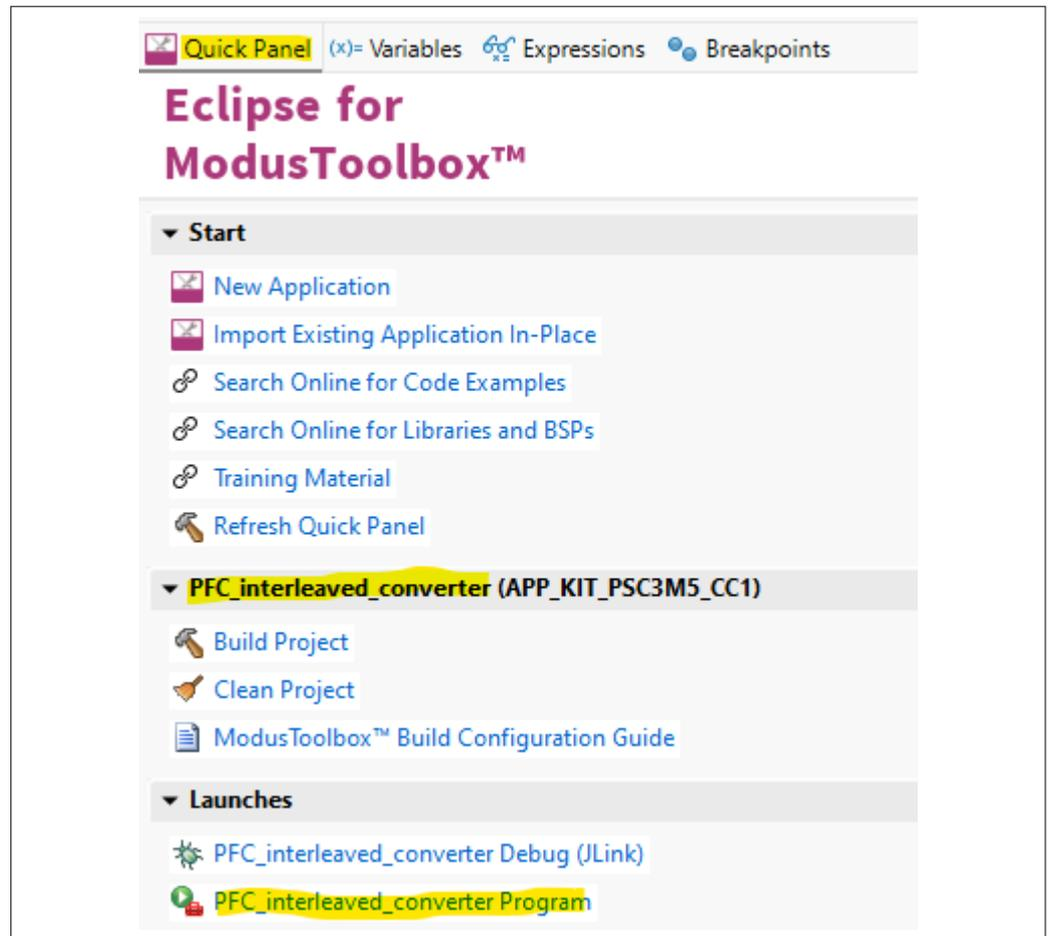

Figure 13 Programming the application
- b. ModusToolbox™ includes an integrated debugger. In the Quick Panel, click the <App_Name> **Program (J-Link)** configuration from the **Launches** section, as shown in Figure 13